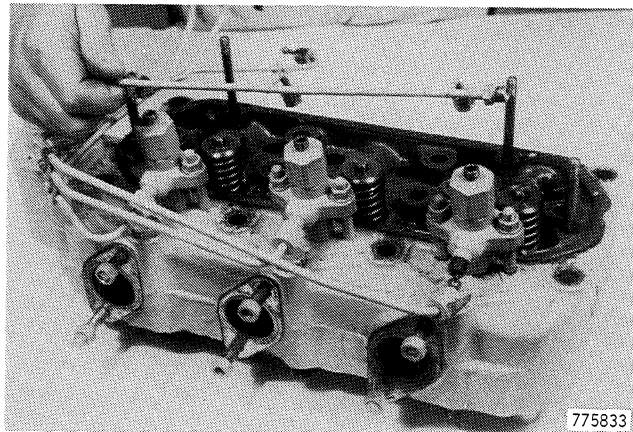

Figure 98
5. Install return tube, Figure 98.